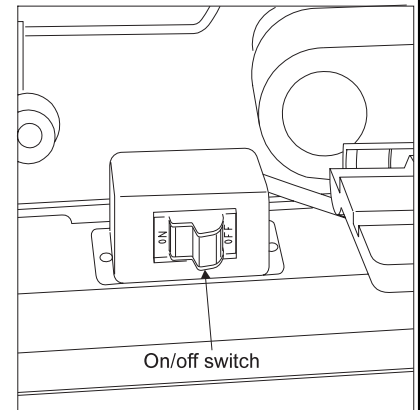

Figure 8. ON/OFF switch
The on/off switch (see Figure 8) is mounted in a switch box on the right side of the sander base. Move the switch to the forward (ON) position to start the sander. Move the switch to the rear (OFF) position to stop the sander.